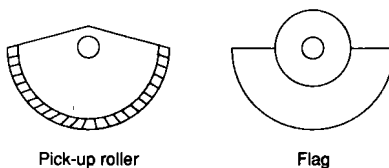

Figure 5-23
- 1) Attach the flag so that the pick-up roller and the flag are oriented as shown in Figure 5-23; i.e., adjust the flag so that the sides with a curvature face the same direction.